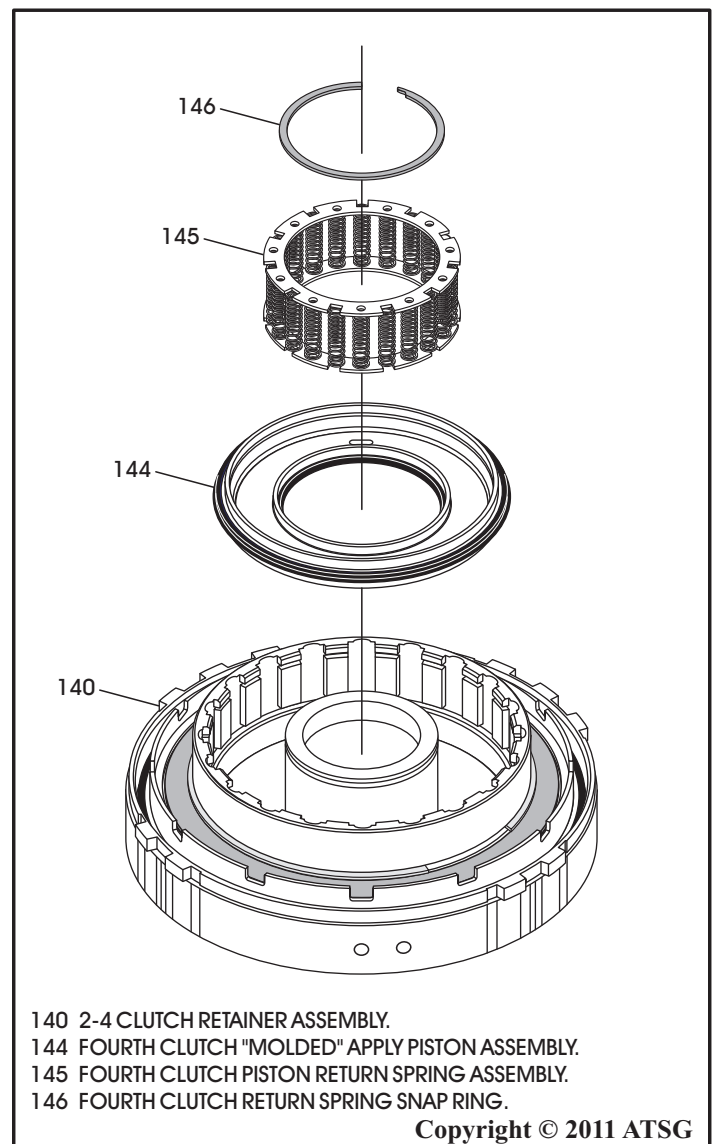

Figure 82
9. Install the "molded" 4th clutch piston into the 2-4 clutch retainer, as shown in Figure 82.
10. Install 4th clutch piston return spring assembly on top of piston, as shown in Figure 82.
11. Position the retaining snap ring on top of the return spring (See Figure 82).